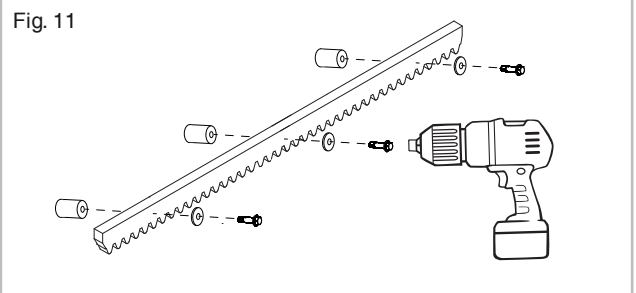

Fig. 11
- Assemble the three threaded stand-offs on the first section of rack, positioning in the middle of the slot (Fig. 11).